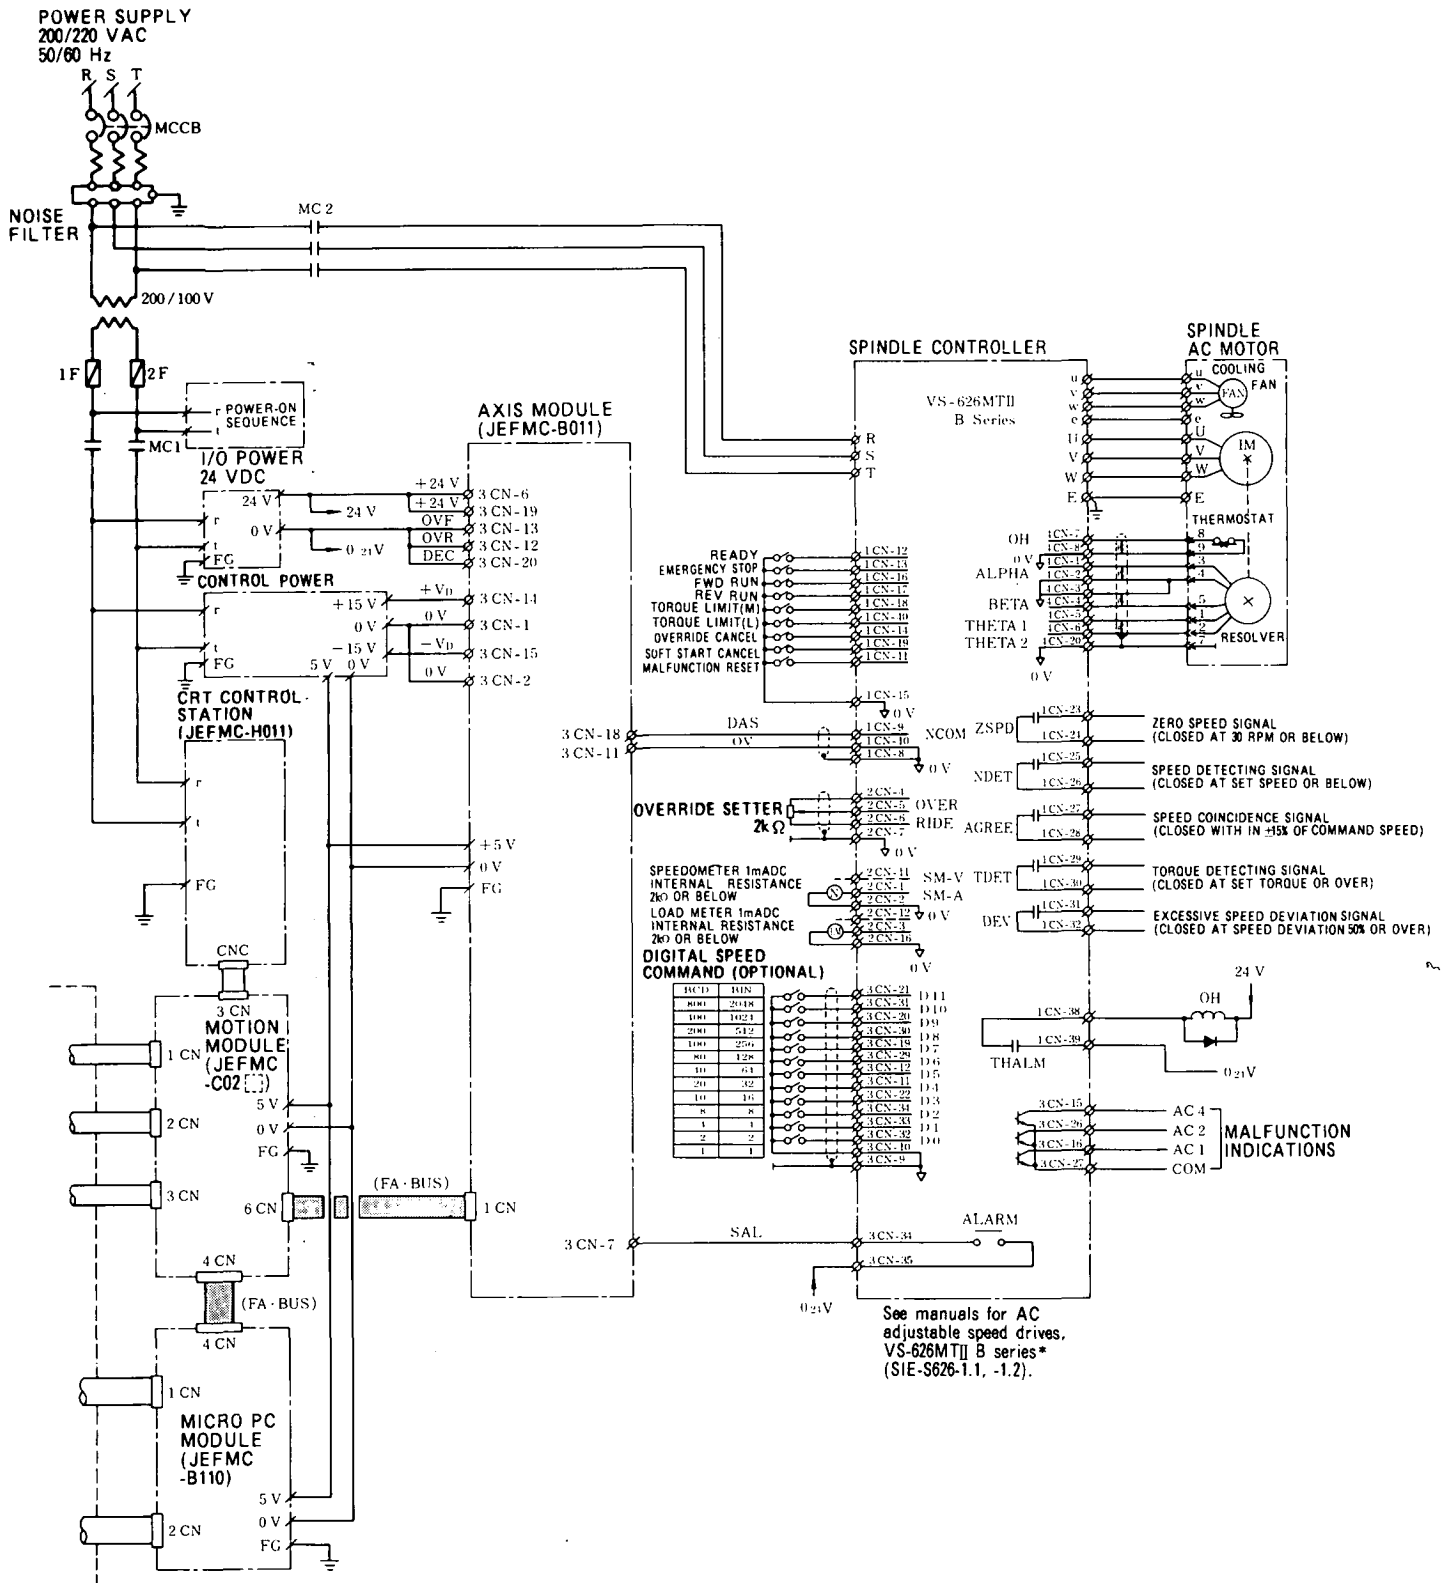

Fig. 12.14 Typical Connection of AC Adjustable Speed Drives, VS-626MT II B Series and Motionpack-110
(4) Typical Connection of AC Adjustable Speed Drive and Motionpack-110 (Fig. 12.14)